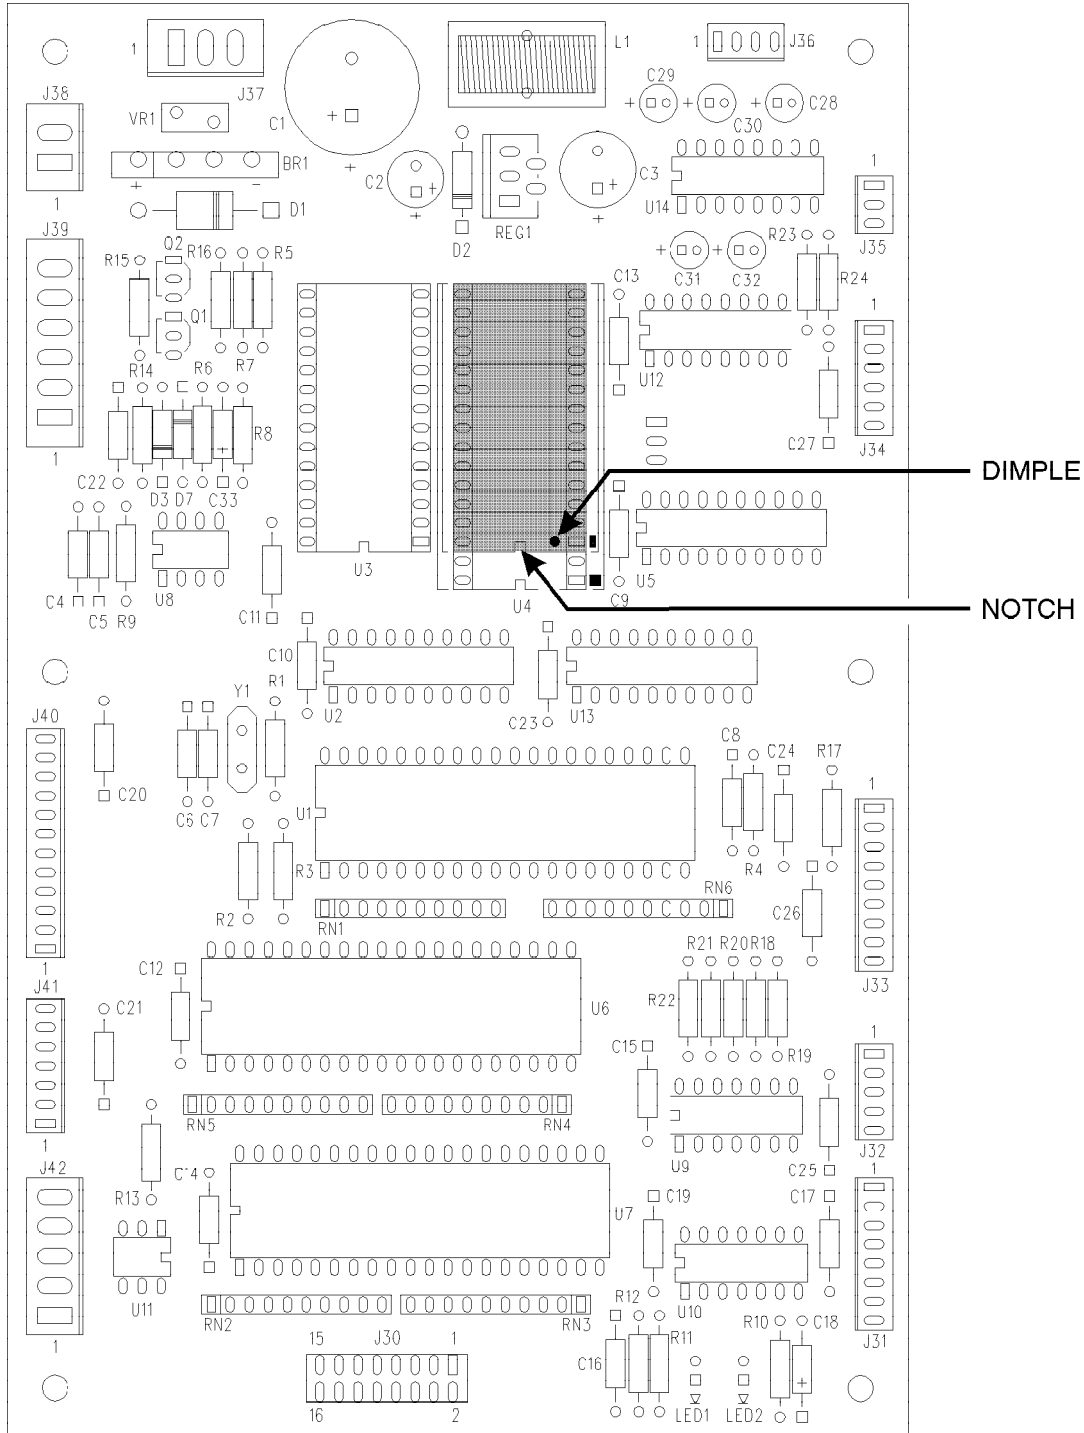

Figure 1. Controller Card Showing Location of EPROM U4
3. On Figure 1, see the shaded area representing EPROM U4. These devices have various means of showing how they are to be oriented on the circuit board. Some EPROMs will have a small notch which matches the notch printed on the controller board. Other EPROMs may have a small dimple as others may have a painted stripe. Take note of where the locating mark is on the EPROM currently mounted on the controller board. Your new EPROM will be placed in the same orientation. The EPROM in use is a 28-pin device, so it does not use the entire socket. The shaded area on the figure is where the new EPROM will go, leaving the four holes at the bottom of the socket empty.